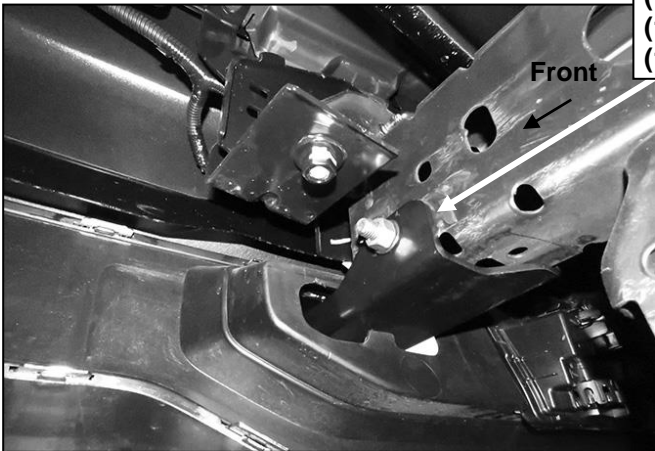

Fig 9
3. Repeat **Step 2** to install the 12mm x 35mm Single Bolt Plate, **(Figure 9)**, into the single forward tow hook mounting hole in the other side of the frame channel and Bracket, **(Figures 6, 10 & 11)**.